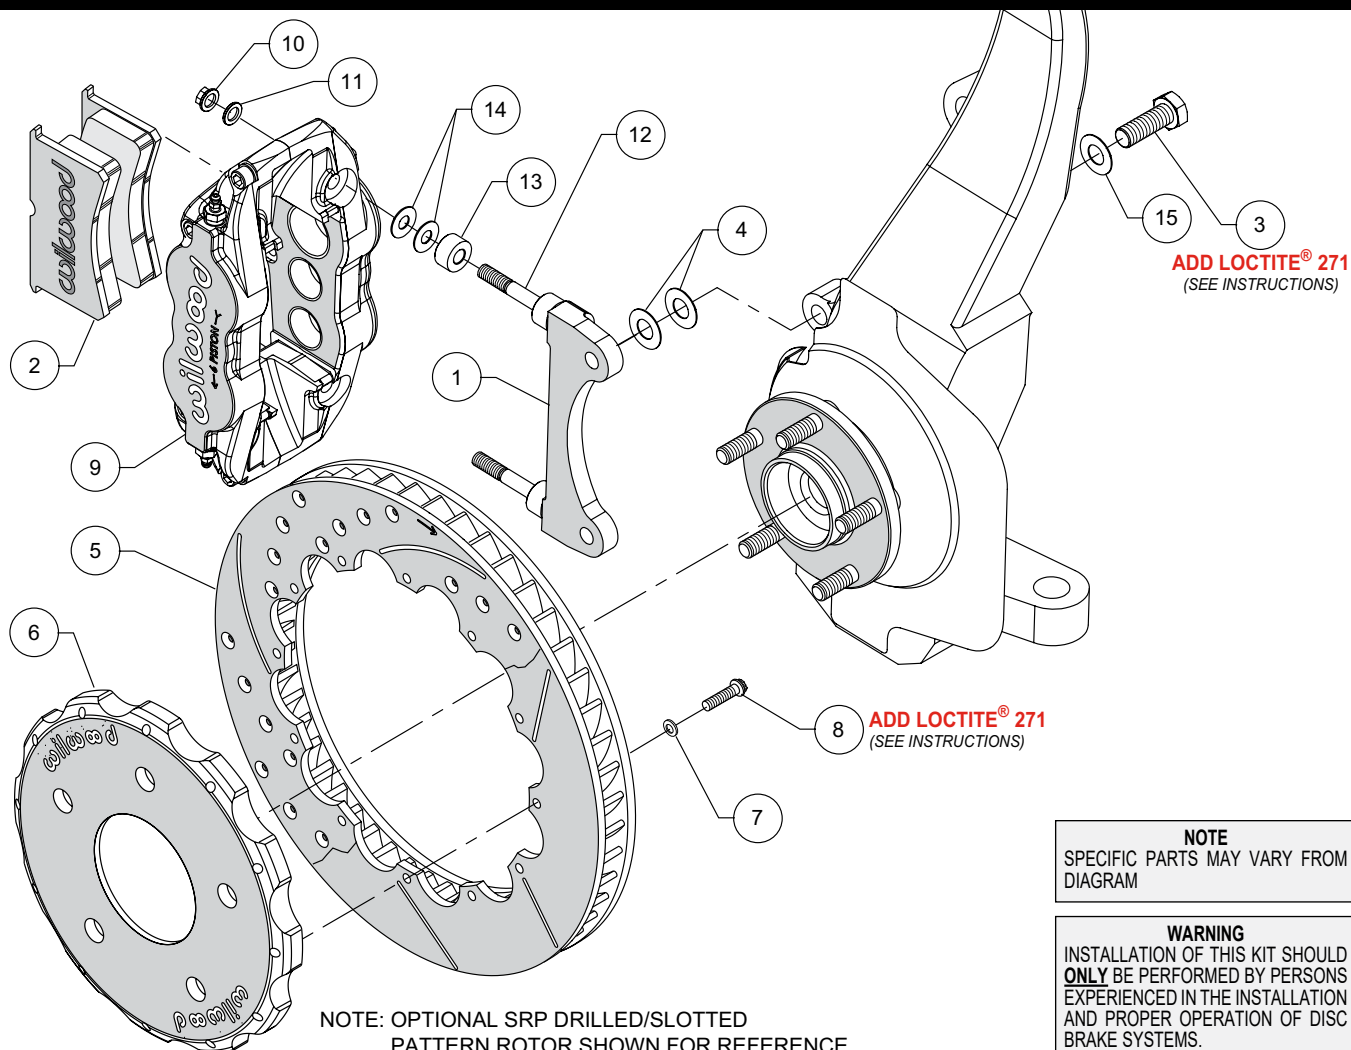
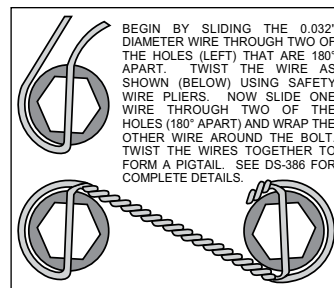

Figure 1. Typical Installation Configuration
Figure 4. Safety Wire Diagram
Assembly Instructions (numbers in parenthesis refer to the parts list and Figure 1 on the preceding pages):
•The caliper mount bracket (1) should initially be installed with clean, dry threads on the mounting bolts. Orient the bracket as shown in Figure 1 and Photo 1, and install using washer (15) and bolts (3). Initially place two additional shims (4) on each bolt between the bracket and upright, Figure 1. Temporarily tighten the mounting bolts. **NOTE: The bracket must fit squarely against the mount bosses on the upright.** Inspect for interference from casting irregularities, machining ridges, burrs, etc. Later, after the caliper alignment has been checked, the mount bolts will be secured using red *Loctite*® 271.
•Orient the rotor (5) and the hat (6) as shown in Figure 1 and Photo 2. Attach rotor to hat using bolts (8) and washers (7). Apply red *Loctite*® 271 to the bolt threads and torque to 155 in-lb using a criss-cross pattern. For an added measure of security, the bolts may be safety wired using standard 0.032 inch diameter stainless steel safety wire as shown in Figure 4. Please refer to Wilwood's data sheet DS-386 (available at www.wilwood.com/Pdf/DataSheets/ds386.pdf) for complete safety wire installation instructions.
•**NOTE: This kit contains distinct right and left hand calipers that must be mounted in a specific direction, as described below.** Initially place two .035" thick shims (14) and one spacer (13) on each stud (12) as shown in Figure 1 and Photo 3. Mount the caliper (9) onto the bracket (1) using lock nuts (10) and washers (11), Figure 1 and Photo 4. Ensure that the caliper is mounted so that the largest pistons are at the rotor exit end of the caliper, in relation to the direction of rotor rotation. Temporarily tighten the lock nuts and view the rotor through the top opening of the caliper. The rotor should be centered in the caliper, Photo 5. If not, adjust by adding or subtracting shims (4) between the bracket and the upright. Always use the same amount of shims on each of the two mounting bolts. Once the caliper alignment is correct, remove the bracket mounting bolts one at a time, apply red *Loctite*® 271 to the threads, and torque to 75 ft-lb.